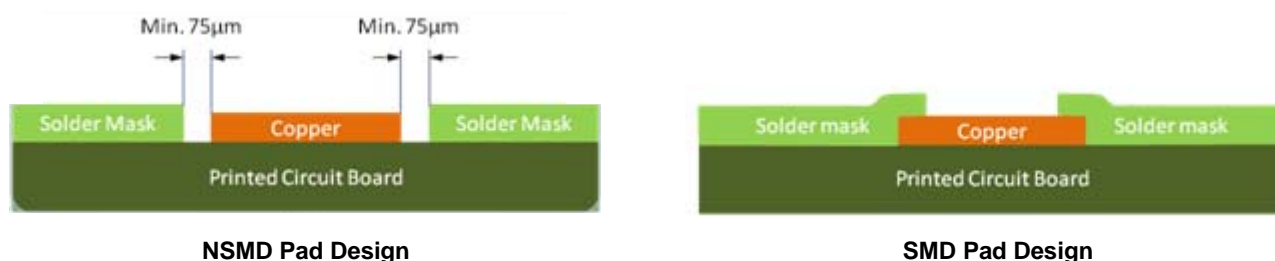

Figure 12. NSMD and SMD pad designs
- For perimeter PCB pads, it is recommended to use NSMD (Non-Solder Mask-Defined), because they provide significant advantages over SMD (Solder Mask-Defined) pads in terms of dimensional tolerances and registration accuracy. The NSMD has a solder mask opening that is larger than the copper pad, and the PCB pad area is controlled by the size of the copper pad. Since the copper pad etching process is capable and stable, a smaller size copper pad can be defined *more accurately*. The clearance around the copper pad and solder mask should be at least 75 μ m, to account for the registration tolerance of the solder mask. Figure 12 shows the pad design concepts.